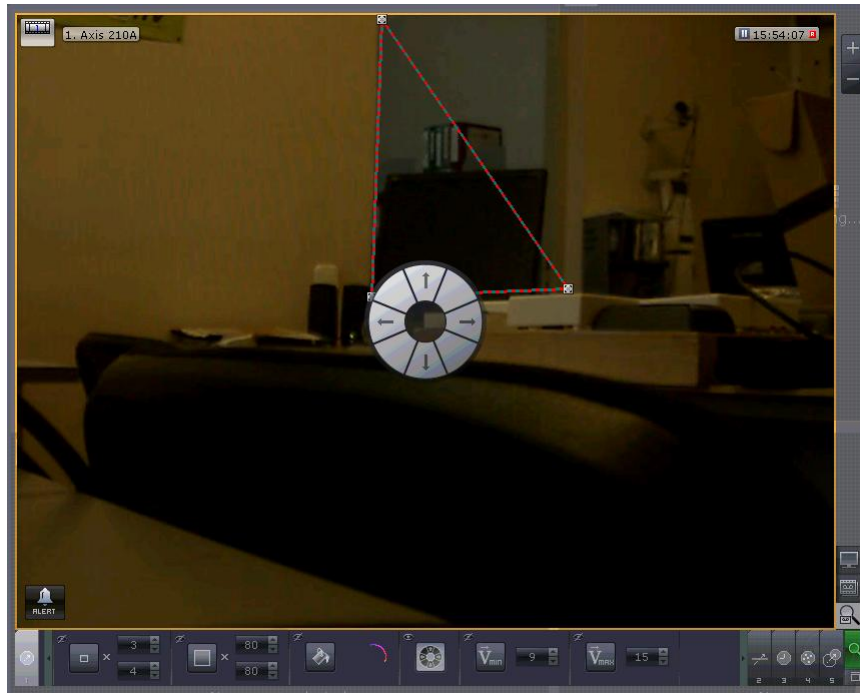

Fig. 7.3—76 Disabling a search for motion in one or several directions
2. When you do this, a visual element consisting of 8 sectors corresponding to 8 directions will appear (Fig. 7.3—76).